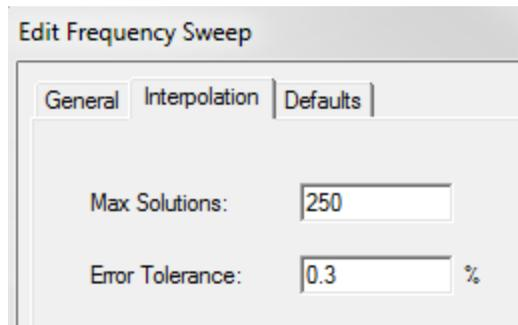

Figure 4. Interpolation
- 3 Click the **Interpolation** tab and edit the fields as in Figure 4 and click **OK**.